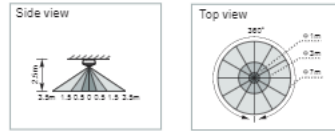

FIG. 2
- 3.1.1 It is recommended to install at the height of 2.5m to gain the optimal detection pattern. The detection range can reach up to 7m diameter with a 360° detection angle (See FIG. 2).